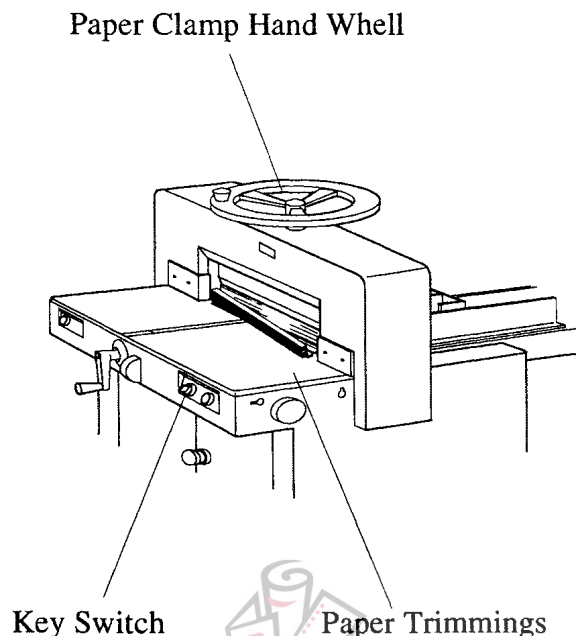

Fig. 2-4
- Remove trimmings. (Fig. 2-4)
- Turn paper clamp hand wheel (Fig. 2-4) counterclockwise until paper lift is released.
- Turn key switch off and remove key. (Fig. 2-4)